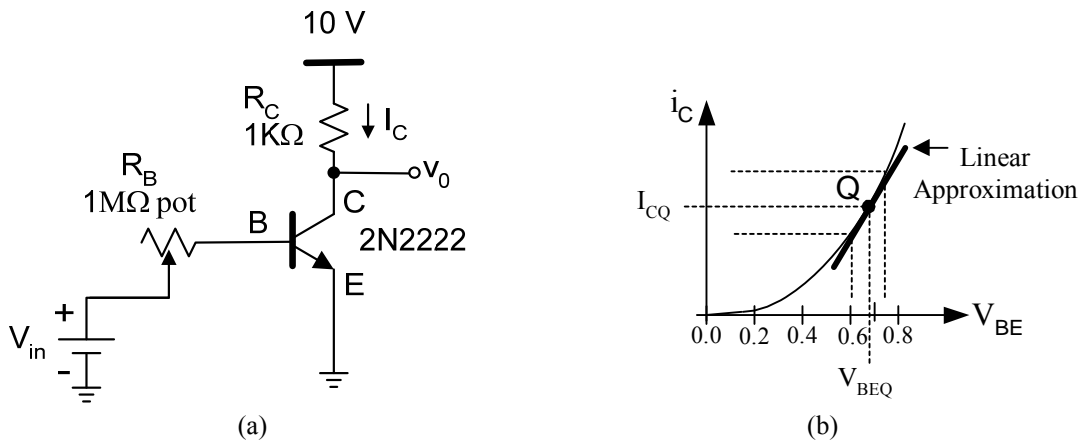

Fig. 2. (a) BJT transistor circuit 1 and (b) input characteristics for the BJT if  $V_{CE} > V_{CESAT}$
For base-emitter voltages below 0.5 V the collector current is very small, typically less than  $1 \mu\text{A}$ . It will be evident in the next sections that the BJT is often operated with larger collector currents and larger base-emitter voltages; e.g.  $V_{BE} > 0.5 \text{ V}$ . When a base-emitter voltage is selected, the collector current is fixed; the operating (quiescent) point Q is therefore determined by  $V_{BEQ}$  and  $I_{CQ}$ . The derivative of this function evaluated at the operation point Q is defined as the small signal transconductance, computed from Fig. 2 as:
2. Assume the transistor you will use has a  $\beta$  of 155 and  $V_{BE(on)}=0.65$  V is the turn-on voltage which means that the transistor enters into the active region once the input voltage applied to base-emitter junction reaches the turn-on voltage. For the circuit in Fig. 2(a), calculate the minimum value of  $V_{in}$  that makes the transistor enter into linear region.
3. For the circuit in Fig. 2(a), compute the current  $I_B$  and  $I_C$ , and the voltage  $V_C$  for at least 5 input voltages within the range  $V_{BE(on)} < V_{BE} < 1V$ , use  $R_B = 1M\Omega$ .
4. For the circuit in Fig. 2(a), if the  $V_{BE}$  was set to 0.1V, what would you expect for the value of  $V_C$ .